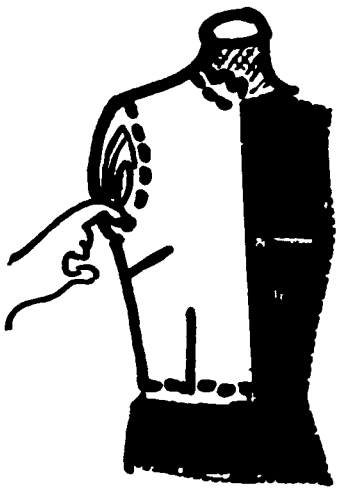

Fig. 8
**EASE** - the extra amount of material a designer leaves beyond the body measure at any given point. This amount varies with the type of garment, fashion, trends, and fabric. (The looseness or tightness of the garment.) Fig. 8.)